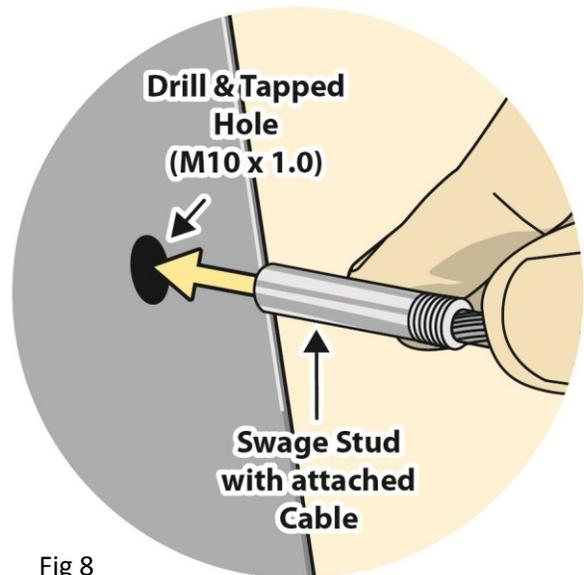

Fig 8
- Use a Vise-Grip® if necessary to screw Swage Stud until fully seated and only cable exits the face of the post (Fig. 8)